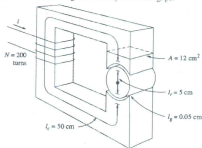

Fig. 1(a)
1. a) For the simplified dc generator depicted in Fig. 1(a), the fringing effect contributes an additional 10% area for the air-gap.  $\mu_r = 3000$  for the ferromagnetic core and current per turn,  $i = 0.5$  A. Calculate for the resulting flux density in the air-gaps. (08)